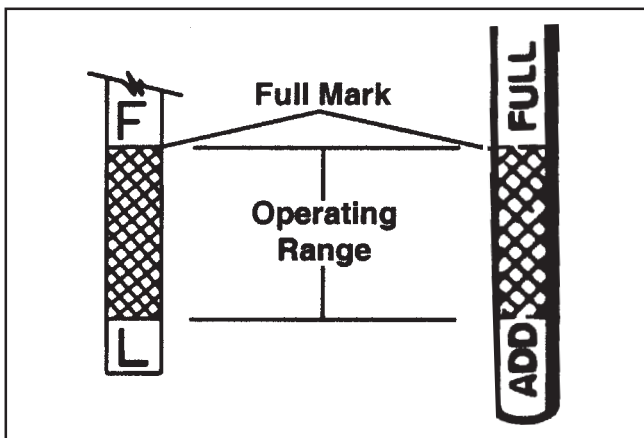

Figure 6. Oil Level Dipstick (Typical).
4. Pull the dipstick out and check the oil level. The oil level should be up to, but not over, the "FULL" or "F" mark on the dipstick. See Figure 6.